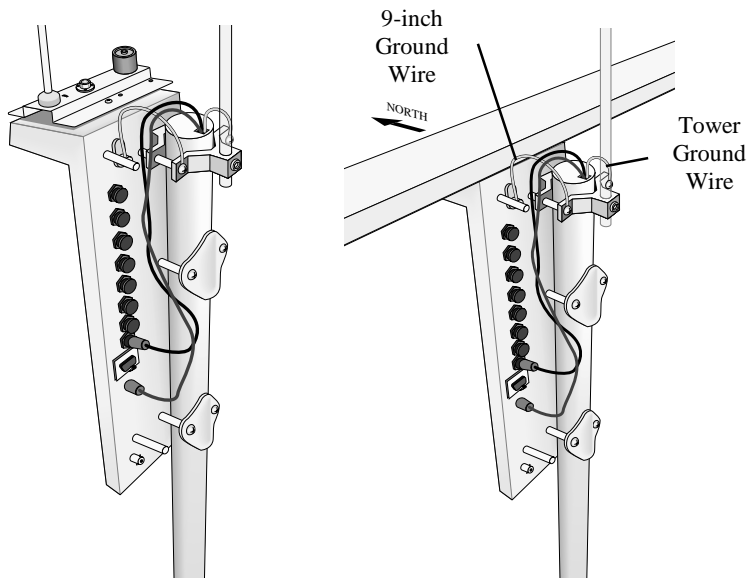

FIGURE 3.1-4. Mounting and Grounding the ET Enclosure
1. Mount and ground the ET enclosure on the ET Tower as shown in Figure 3.1-4.